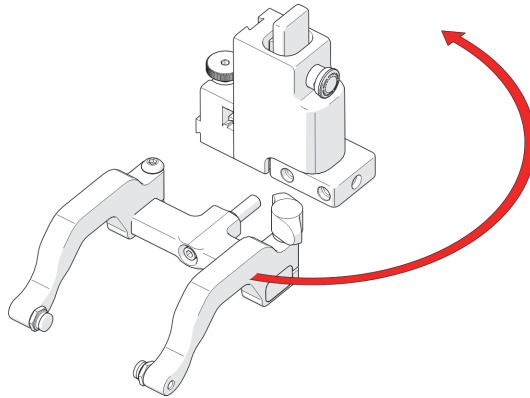

Figure 2-111 Orient to opposite side
2. Position the yoke and arms to the opposite side of the probe holder (see Figure 2-111 on page 119).